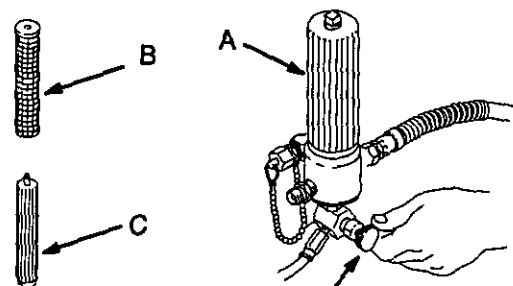

Fig. 7
2. Remove the filter bowl (A) and screen (B); see instruction manual 307-273, supplied. Install the bowl and support (C), without the screen, to flush. Clean the screen separately. See Fig. 7.